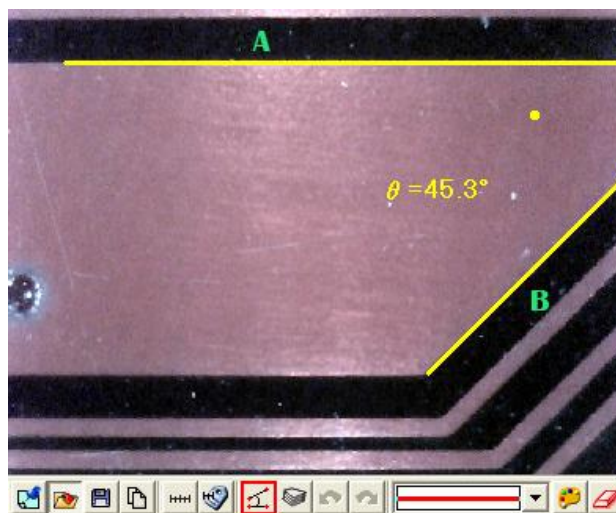

Fig 5-72 4 Points Chamfer
- (7) 4 Points Angle: Use  to measure an angle but only see 2 unparallel lines shown on the object. See Fig 5-72, to draw a 1st line from the object (see line A), and to draw the other unparallel line (see line B), the angle can be automatically calculated. See Fig 5-72. There is a small dot show  $45.3^\circ$ .
There are lines styles shown in Fig.5-72 and can choose different lines.